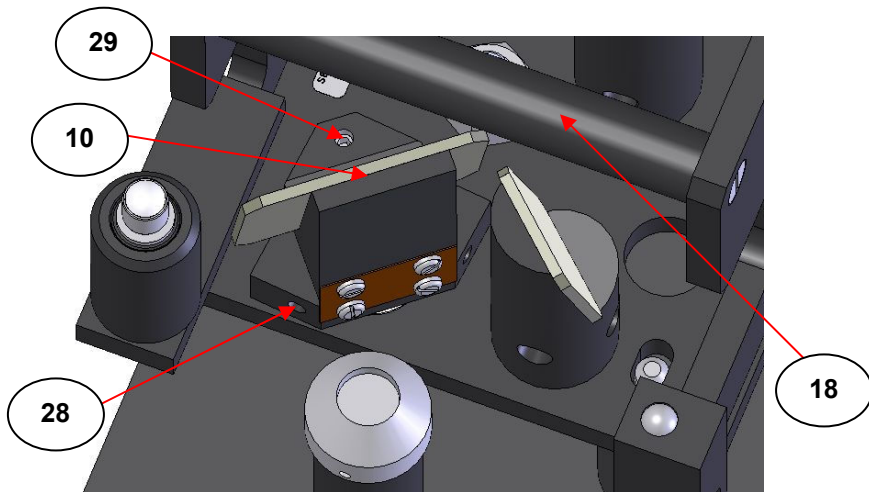

Fig 11. Final Output Mirror (10) for Rotation and Tilt Adjustment
When mirror (10) has been adjusted for **rotation** to give an optimum peak value, then the **tilt** adjustment of this mirror can be made to try and optimise the light throughput value further. (See Fig 11.- diagram shows a close up of the mirror parts with the ellipsoid mirrors arm assembly (4) in the up/open **Sample Loading Position** for clarity.)